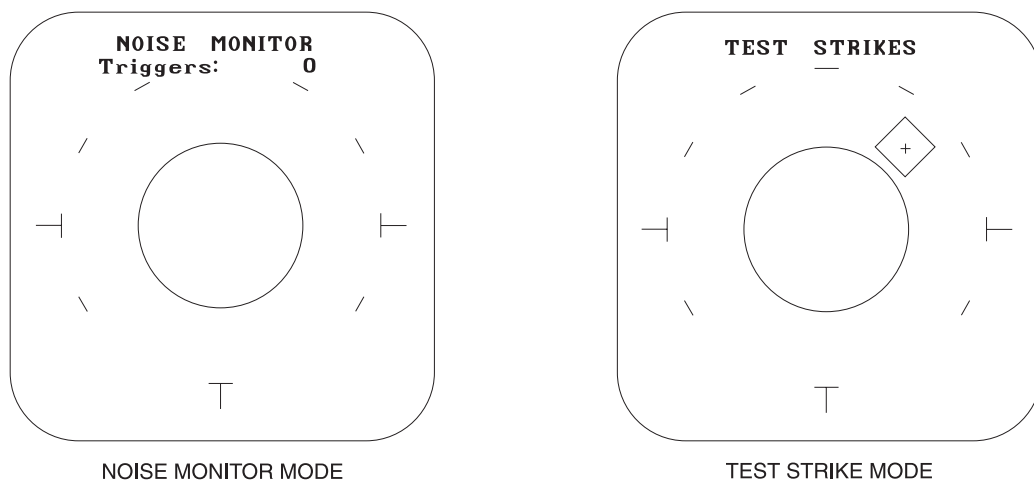

Figure 3-4. Electrical Noise Test
15. Test for electrical noise and interference by running the noise monitor and strike test as detailed in paragraph 4.4.3. See figure 3-4.